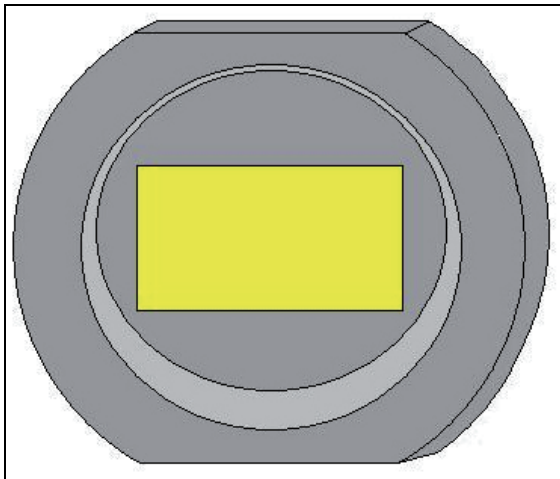
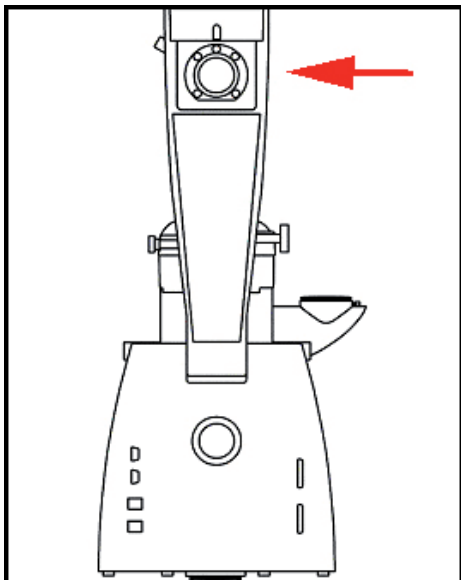
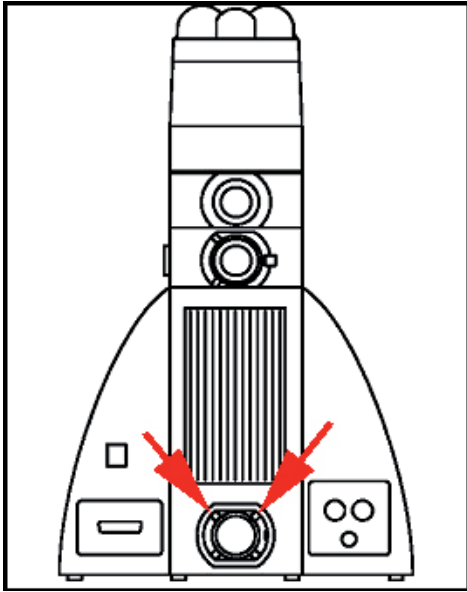
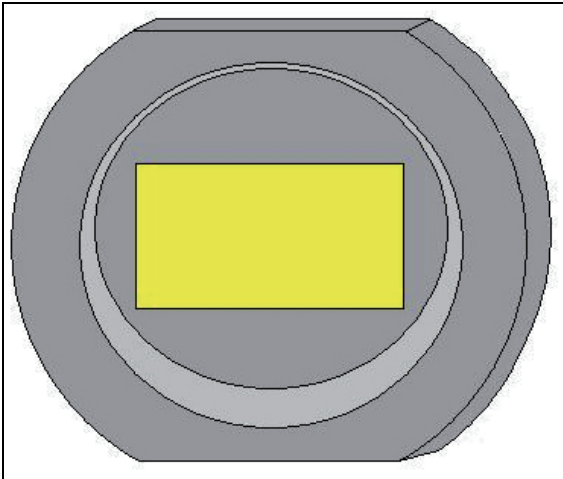

Figure 25: Cover
Figure 26: Port for connecting the transmitted-light lamp housing on the inverted stand
Figure 27: Port for connecting the transmitted-light lamp housing or mirror housing on the upright stand
Figure 28: Cover
If no transmitted-light lamp housing is connected, to protect from the potential escape of laser radiation, the opening (Figure 26 or Figure 27) must be securely sealed with the cover (Figure 25) that accompanies the system.
If a mirror housing is not connected to the upright microscope stand, the opening must be tightly covered using the cap provided with the system to prevent any laser radiation from escaping (Figure 28).
- If the mirror housing is removed, you must close off the port on the stand (Figure 27) using the cover (Figure 28).